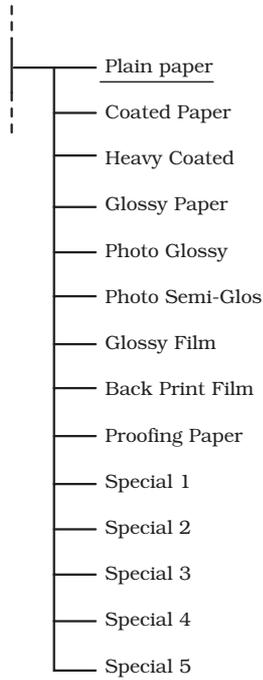

Figure 3-41 Map of the Media Type
*1: Displayed the media type (Refer to Figure 3-41 Map of the Media Type)